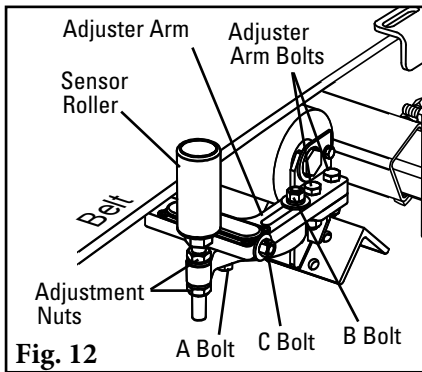
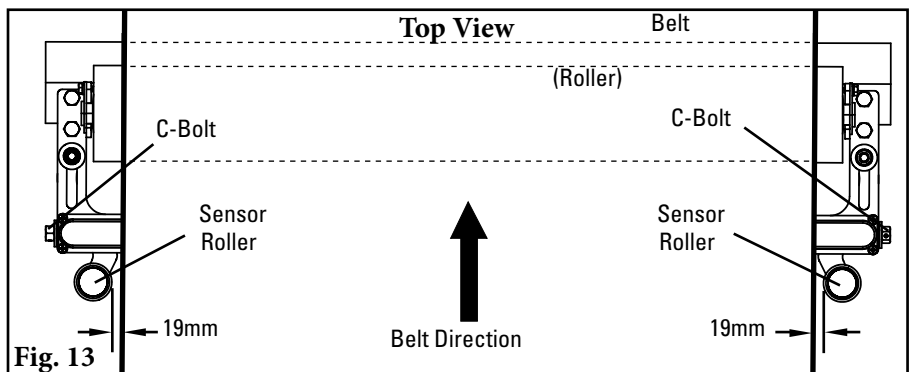

Fig. 12
Fig. 13
- 13. Adjust sensor rollers so they are 19mm from the belt on each side. Adjust by loosening "A" and "B" bolts (shown in Fig. 12), then turning the "C" bolts (Fig. 13).